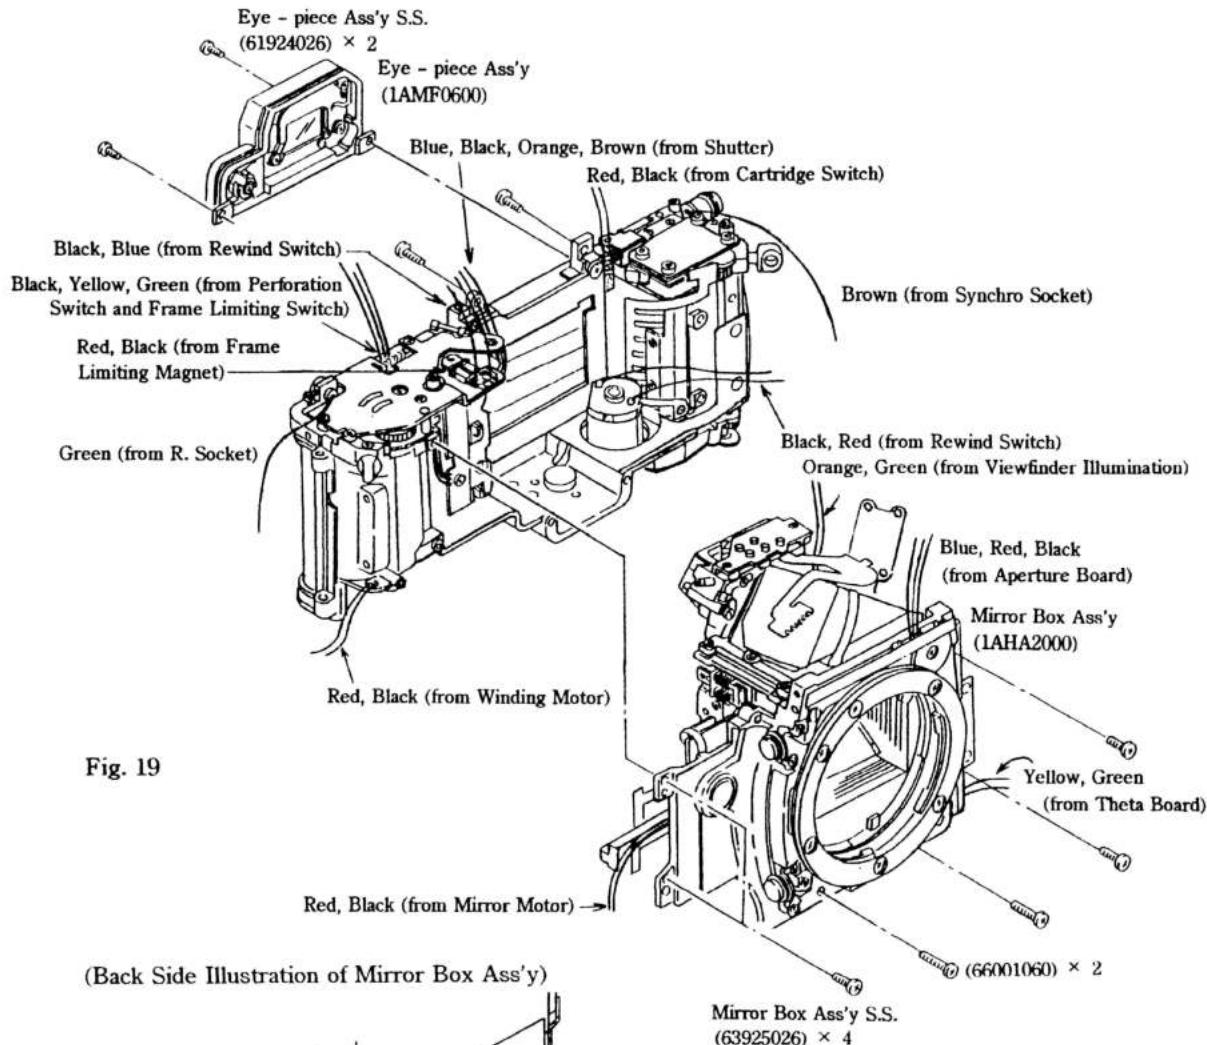

Fig. 19
- The lead wires connected to the Body and those connected to the Mirror Box Ass'y must be placed out of the Body as shown in Fig. 19. And when installing the Mirror Box Ass'y, take care not to catch any lead wires or FPC between the Body and the Mirror Box Ass'y.